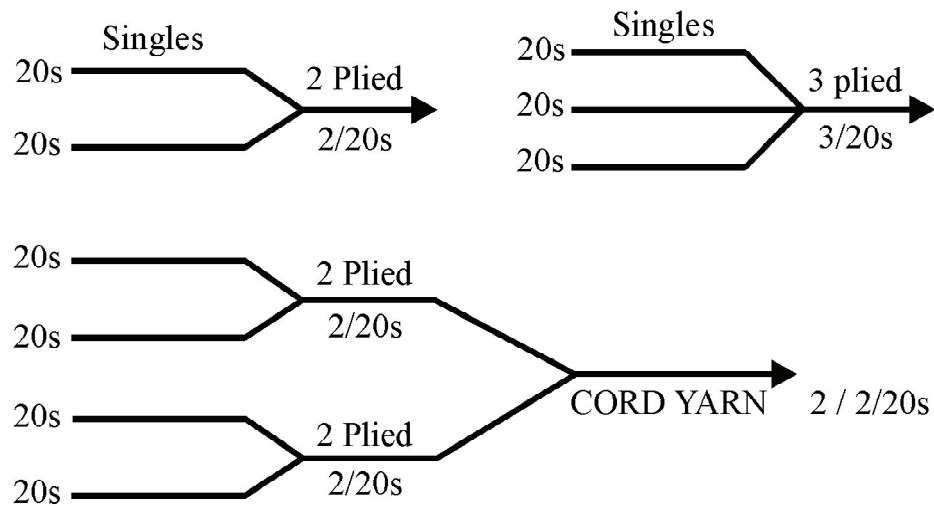

Fig. 6.7: Ply Yarn
**A ply yarn** is made by a second twisting operation, which combines two or more singles. Each part of the yarn is called a ply. For example two ply, three ply, four ply (Fig. 6.7). Plying tends to increase the diameter, strength and quality of the yarn. The direction of twisting is designated as S or Z, just as in single yarns. Normally the folding twist is in the opposite direction to that of the single yarns.